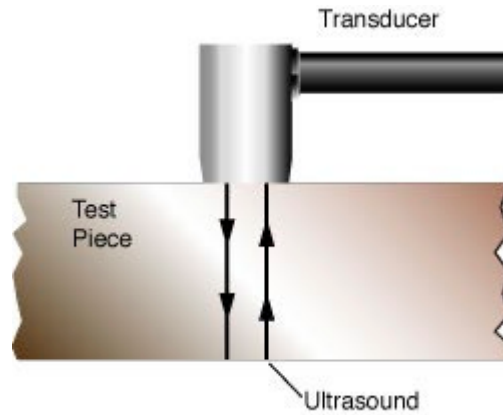

Figure 1. The transducer is placed on the part. Sound from the transducer makes a round trip between the contact surface and the back surface.
**Ultrasonic Gauging Theory:** Ultrasonic thickness gauges provide an accurate, reliable, repeatable means of nondestructively measuring wall thickness from one side of the part. They work by measuring the time it takes for an ultrasonic sound wave to travel through the part. The transducer is placed on the surface of the part to be measured and acoustically coupled to the part using a fluid, usually glycerine, propylene glycol, or water. The pulse of sound travels from the contact surface to the opposite surface and bounces back to the transducer as an echo (see Fig. 1). The gauge measures the transmit time of a pulse of sound through a material (see Fig. 2); using the velocity of sound in the material being measured, the gauge calculates the thickness of the material by the following equation.